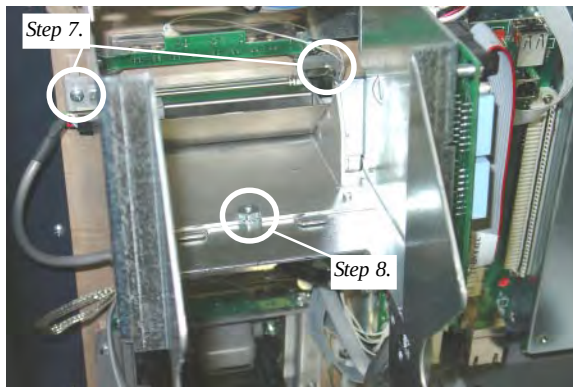

Figure 3-26. Removing the Printer/Presenter Assembly from the FT5000 Automatic Teller Machine.
1. Unlock and open the cabinet sleeve door to the top enclosure. Turn off the AC input power by pushing the AC ON/OFF switch to the OFF(0) position..
7. Refer to Figure 3-26. Remove the two screws that attach the printer support bracket to the control panel.
8. Refer to Figure 3-26. Remove the nut and bolt that secures the printer sup-